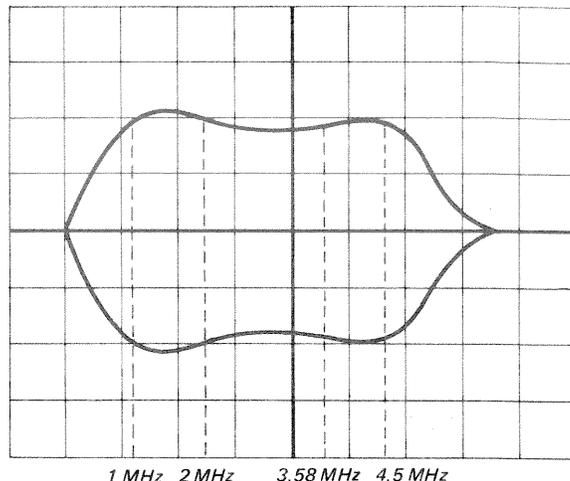

Fig. 5-7 Rf sweep envelope
4. Check to see that the sweep signal of Fig. 5-7 is obtained on the scope. If the sweep signal differs from Fig. 5-7, adjust as follows:
- b. Adjust R211, R212, and R305 to obtain the response shown in Fig. 5-7.